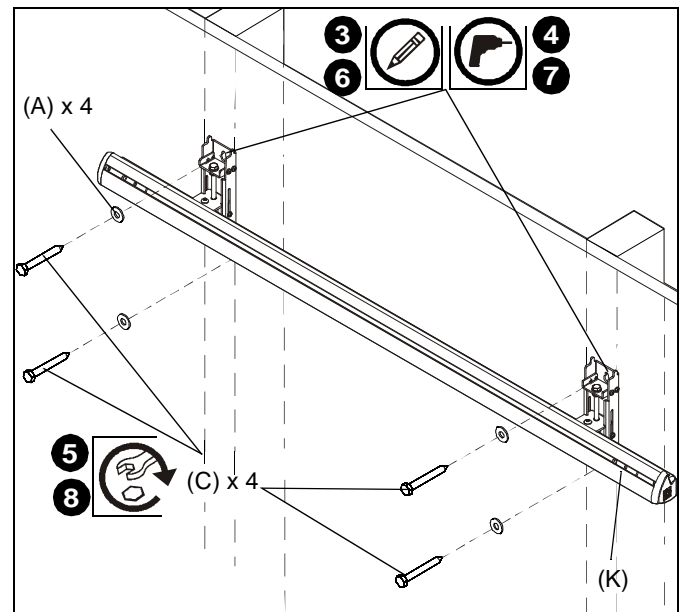

Figure 2
3. Using a level, mark the wall on each stud above existing chalkboard through **top** mounting hole in the wall assembly (K). (See Figure 2)
4. Drill one 1/8" pilot hole in each stud. (See Figure 2)
5. Use two 1/4-20 x 2-1/2" lag bolts (C) and two 1/4" flat washers (A) to attach wall assembly (K) to wall. (See Figure 2)
6. Mark the wall through the **lower** mounting hole in the wall assembly (K). (See Figure 2)
7. Drill one 1/8" pilot hole in each stud through lower mounting hole in wall assembly (K). (See Figure 2)
8. Use two 1/4-20 x 2-1/2" lag bolts (C) and two 1/4" flat washers (A) to attach wall assembly (K) to wall. (See Figure 2)